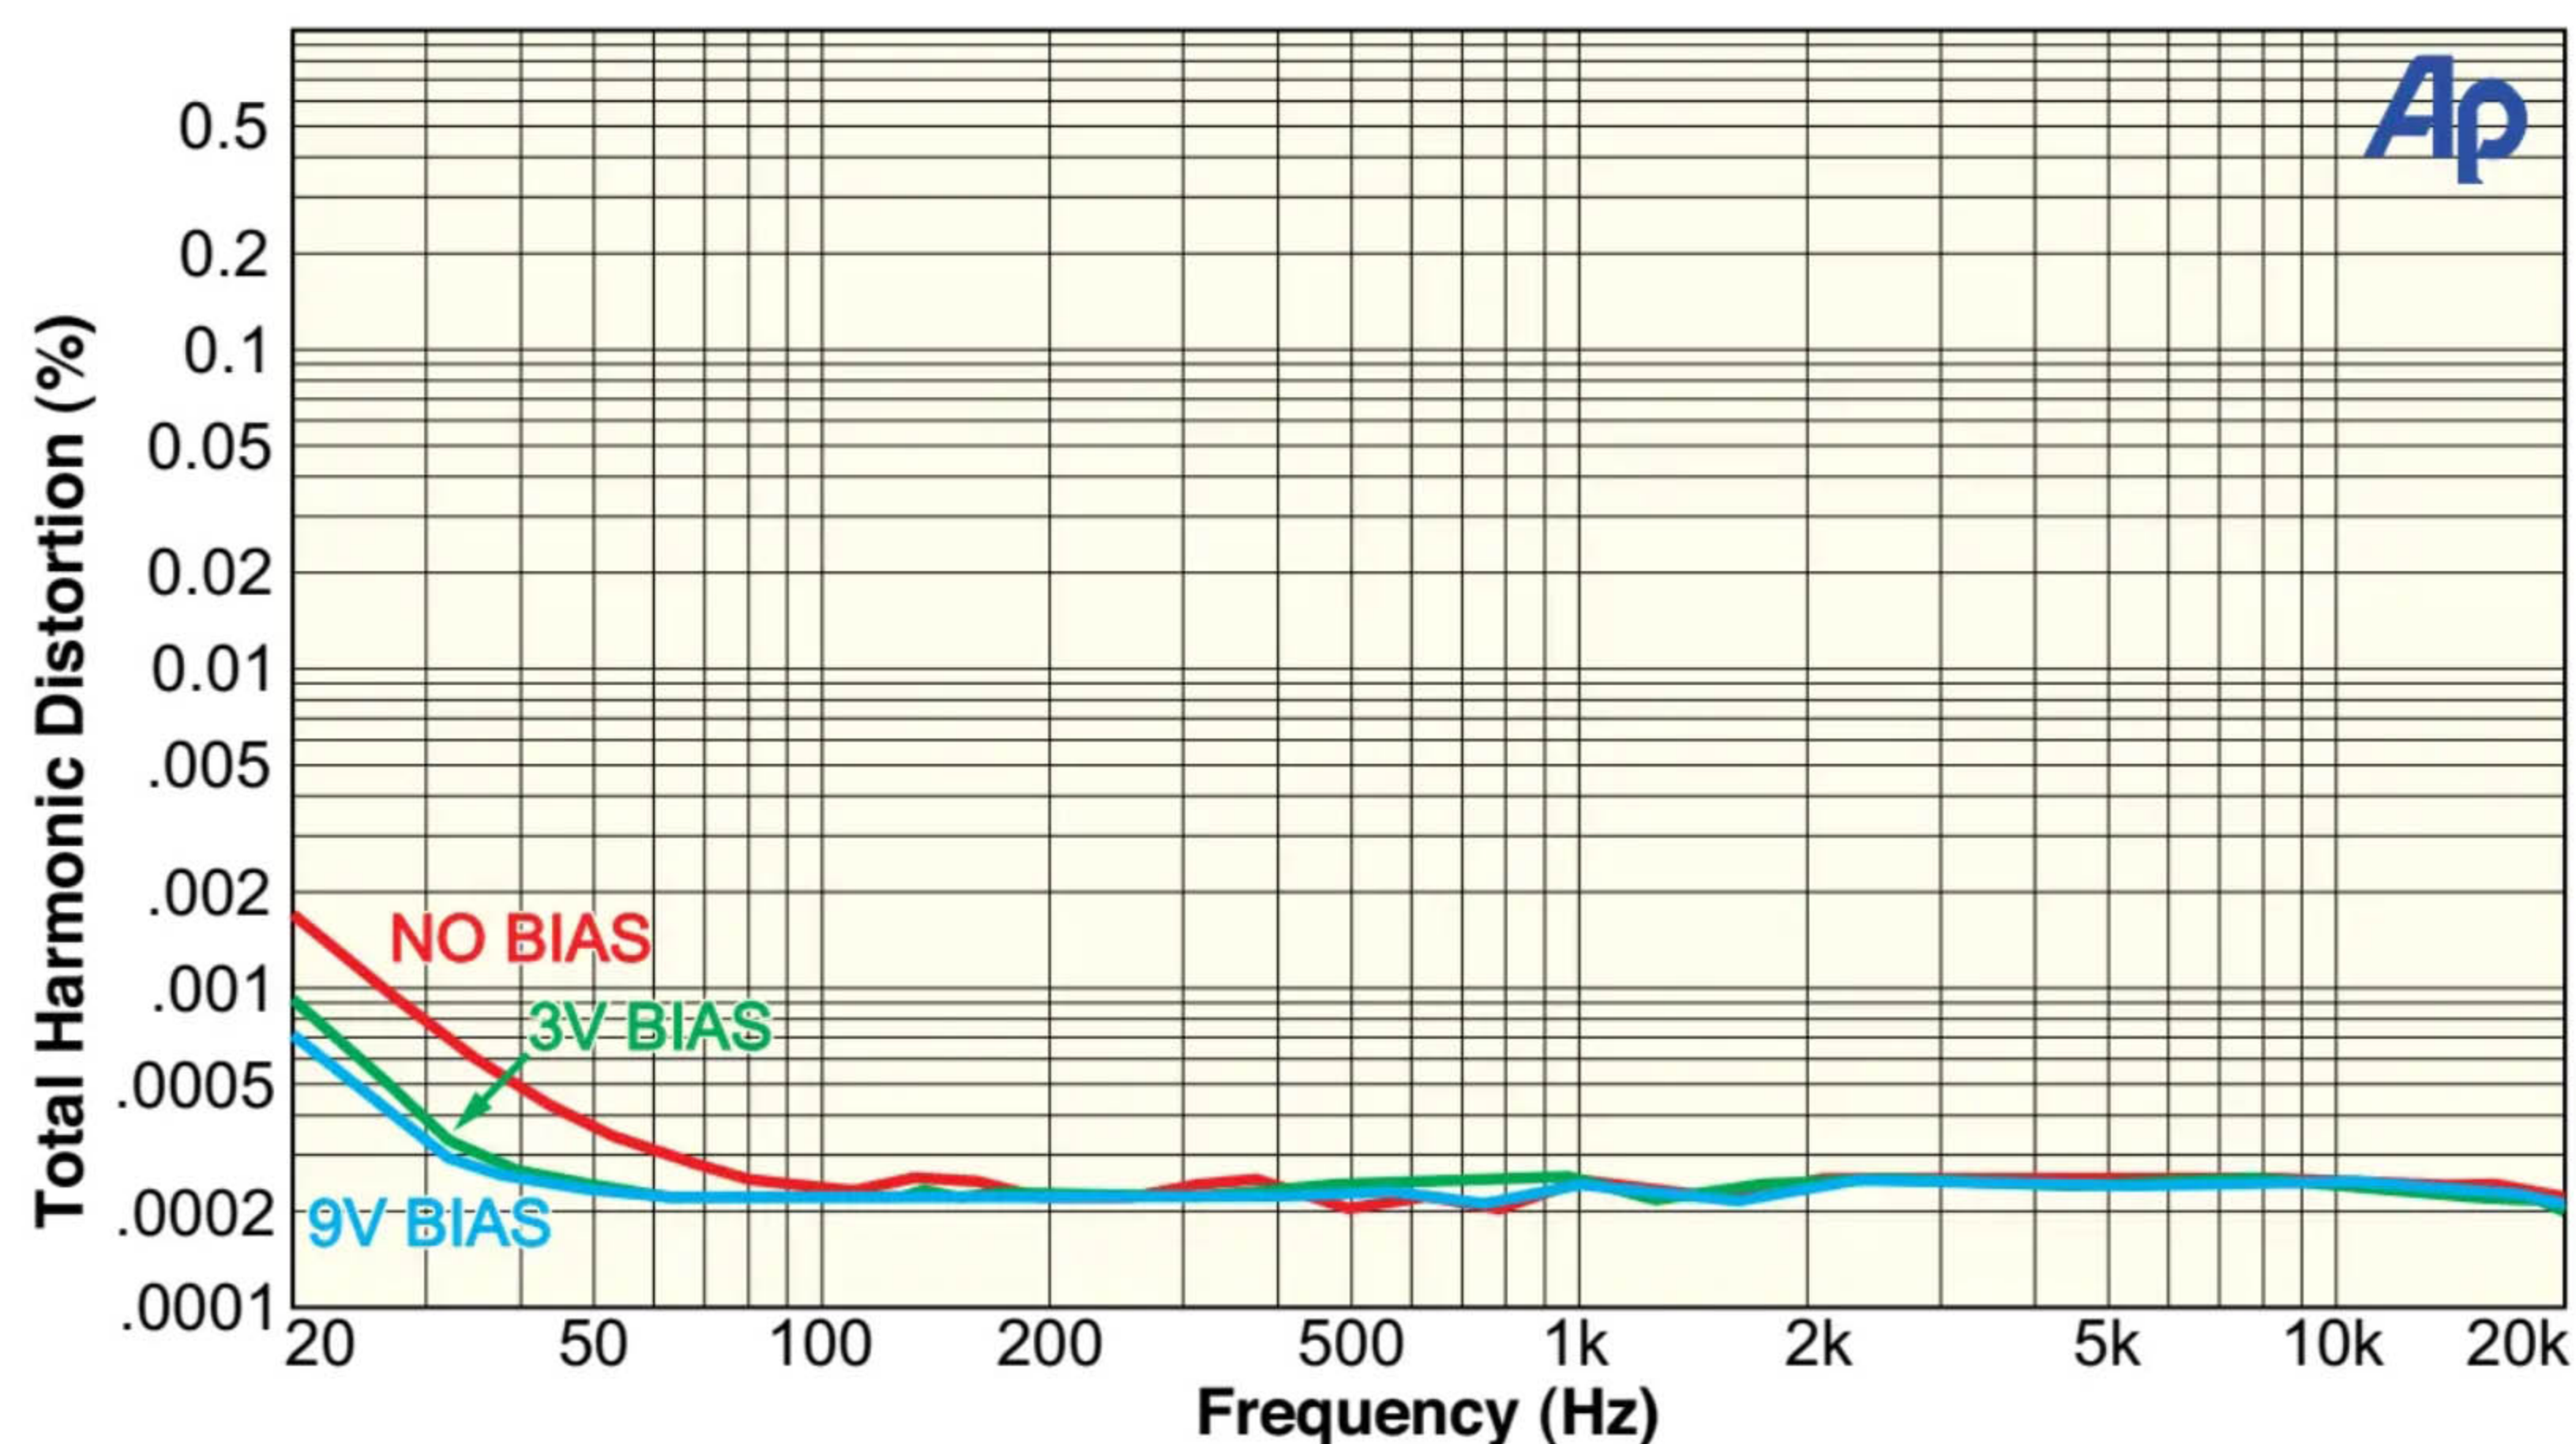

Fig.18: solid tantalum bead capacitor distortion curves, 1V RMS into 600Ω with a 100μF 10V Kemet type. No bias THD = 0.0018%, 3V = 0.0009%, 9V = 0.0007%.
Solid tantalum capacitors don't degrade without bias, but the distortion is higher (Fig.18). Wet electrolytics do suffer from prolonged storage, especially the non-polarised (NP) types. In most NP data sheets, it says to polarise one way, then the other every 250 hours. If you don't do this, the capacitors can pop in the drawer after a few years.